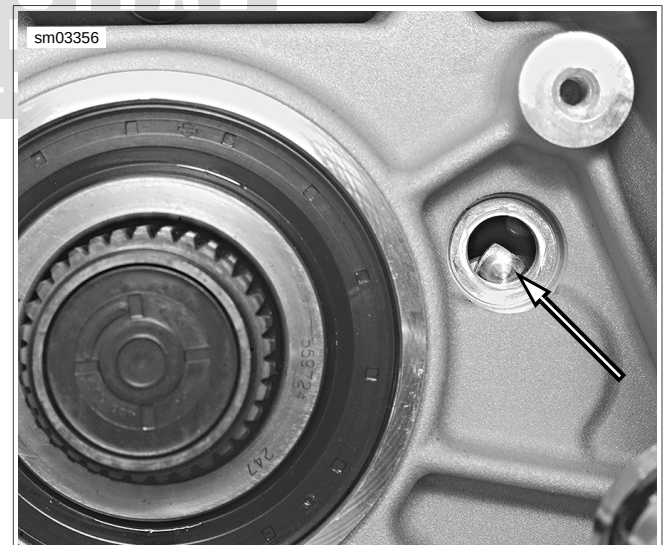

Figure 5-51. Shifter Drum Neutral Detent
9. See Figure 5-51. Verify shifter drum detent is visible in neutral switch hole indicating that transmission is in neutral.